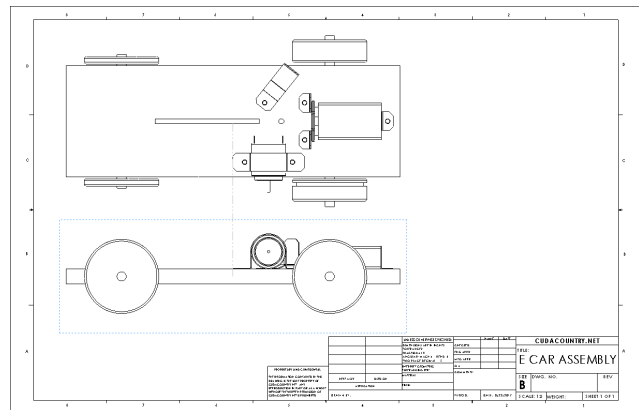

Fig. 3
Step 6. **Move the cursor straight up** and click to place the top view as shown in **Fig. 3**. Center the preview between the side view you just placed and the top border line.